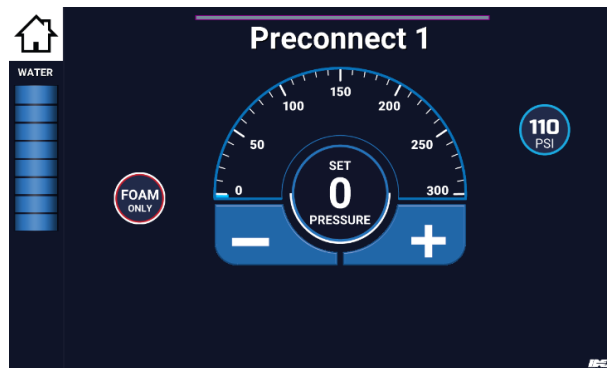

Figure 5. Activating A Foam Preset
- B. Touch desired discharge (valve) bubble. (All foam available discharges are labeled with the word FOAM.) Valve X screen displays (discharge valve control screen, see Figure 5).
- C. Touch desired FOAM preset bubble. (All foam available FOAM presets are labeled with the word FOAM and are located to the left of the widget.) See Figure 5.